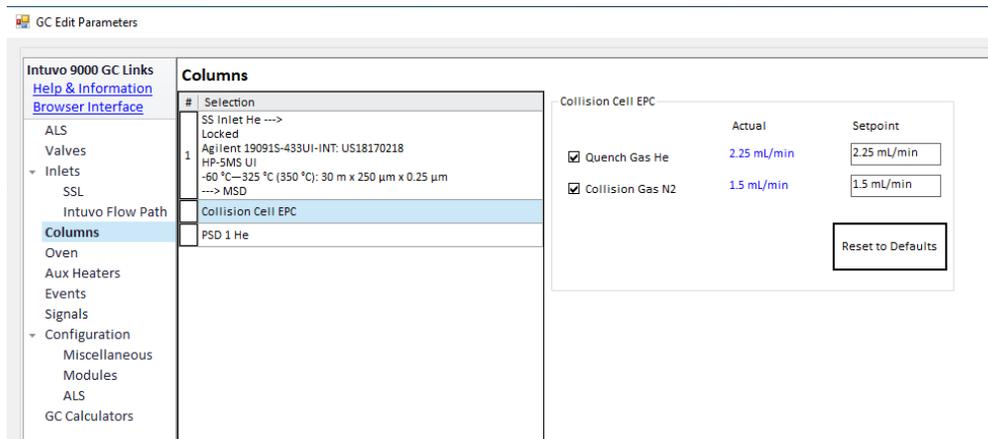

Figure 33. Setting CC gas flow rate
- 2 Click the **Columns** icon to display the control parameter entry screen for column and Aux flow modules. (See **Figure 33** on page 116.)